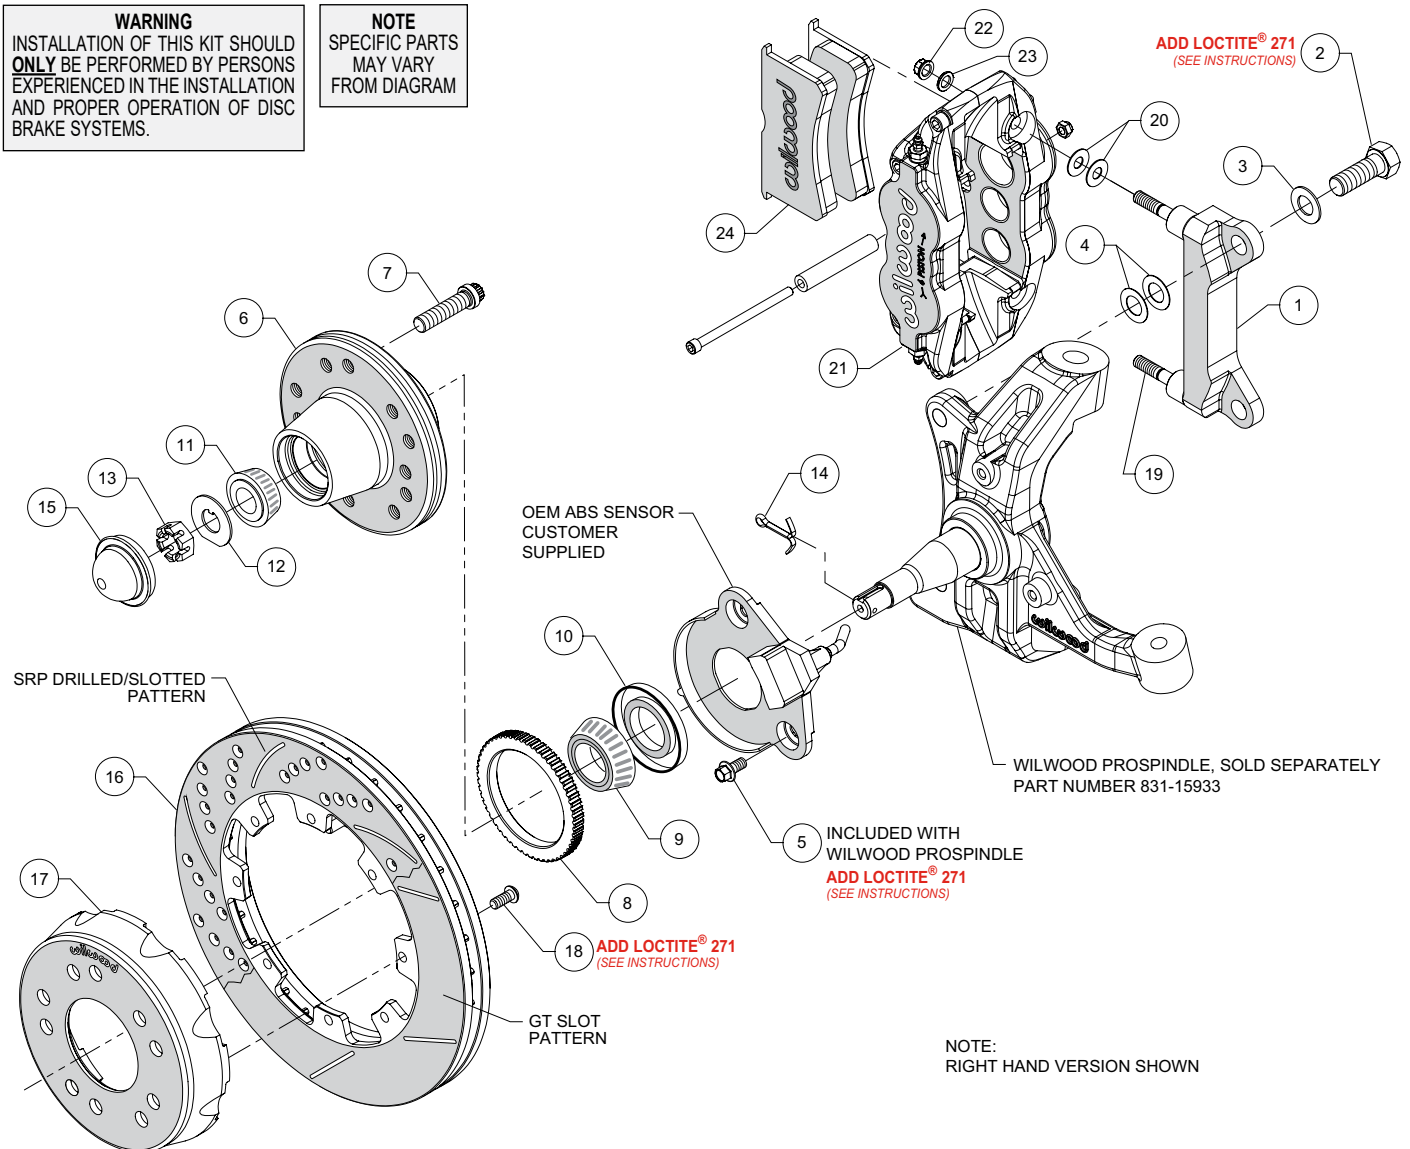

Figure 1. Typical Installation Configuration
**NOTE:** Numbers in parenthesis refer to the parts list and Figure 1 on the preceding pages.
- For vehicles equipped with ABS, install the OEM ABS sensor (customer supplied) to the spindle using bolts (5) as shown in Figure 1 and Photo 3. Temporarily tighten the mounting bolts. **NOTE: The sensor must fit squarely against the mount bosses on the spindle.** Inspect for interference from casting irregularities, machining ridges, burrs, etc. Remove the bolts one at a time and apply red *Loctite*® 271 to the threads, and torque to 20 ft-lb.
- The caliper mount bracket (1) should initially be installed with clean, dry threads on the mounting bolts. Orient the bracket, as shown in Figure 1 and Photo 4, and install using bolts (2) and washers (3). Initially place two .024" thick shims (4) on each bolt between the bracket and spindle, Figure 1. Temporarily tighten the mounting bolts. **NOTE: The bracket must fit squarely against the mount bosses on the spindle.** Inspect for interference from casting irregularities, machining ridges, burrs, etc. Later, after the caliper alignment has been checked, the mount bolts will be secured using red *Loctite*® 271.
- Install wheel studs (7) into the hub (6), Photo 5. Torque to 77 ft-lb. **NOTE: There are two five lug patterns in the hub (5 x 4.75 and 5 x 5.00).** Ensure the correct hub stud pattern is being used to fit the wheel application.
- For vehicles equipped with ABS, carefully press the ABS ring (8) onto the backside of the hub (6) as shown in Figure 1 and Photo 6.
- Pack the small outer bearing cone (11) with high temperature disc brake bearing grease and install into hub (6). Slide the hub assembly onto the spindle. Secure using spindle washer (12) and spindle nut (13), Photo 8. Adjust bearings per OEM specifications. Install a new cotter pin (14).
- Press the dust cap (15) into the hub (6). **NOTE: Do not hammer center of cap. Install using outer flange only.**
- Orient the rotor (16) and the hat (17) as shown in Figure 1 and Photo 9. Attach rotor to hat using bolts (18). Using an alternating sequence, apply red *Loctite*® 271 to the threads, and torque to 25 ft-lbs.
- NOTE: This kit contains distinct right and left hand calipers that must be mounted in a specific direction, as described below.** Initially place two .035" thick shims (20) on each stud (19) between the caliper and the bracket, as shown in Figure 1 and Photo 10. Mount the caliper (21) onto the bracket (1) using lock nuts (22) and washers (23), Figure 1. Temporarily tighten the lock nuts. Ensure that the caliper is mounted so that the largest pistons are at the rotor exit end of the caliper, in relation to the direction of rotor rotation. View the rotor through the top opening of the caliper. The rotor should be centered in the caliper, Photo 11. If not, adjust by adding or subtracting shims (4) between the bracket and the spindle. Always use the same amount of shims on each of the two mounting bolts. Once the caliper alignment is correct, remove the bracket mounting bolts (2) one at a time, apply red *Loctite*® 271 to the threads, and torque to 140 ft-lb.